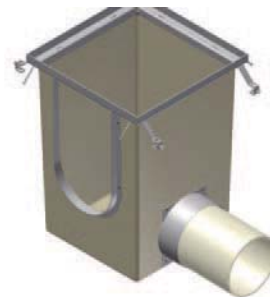

Figure 6.9
- Remove excess sealant and place pipe into adapter. See Fig. 6.9